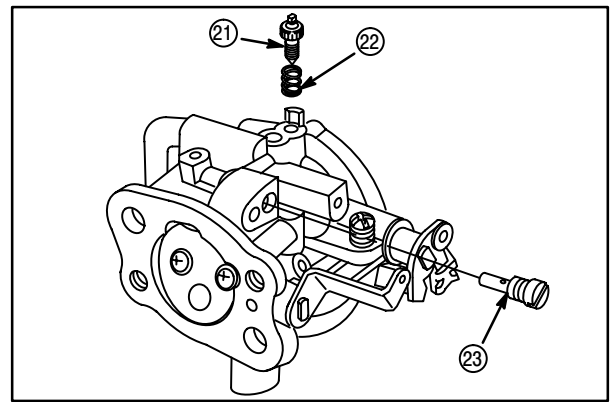

**Fig. 54**
12. Assemble inlet needle retainer (19) to inlet needle (18). Assemble to float (17), **Fig. 54**.
13. Install float to carburetor body. Install float hinge pin (20) with swaged end out.